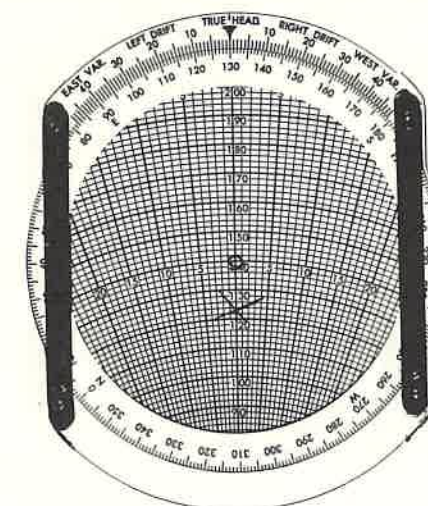

FIG. 5c
7. Read Wind Direction (135 deg.) under the True Heading Index. (See Fig. 5c)